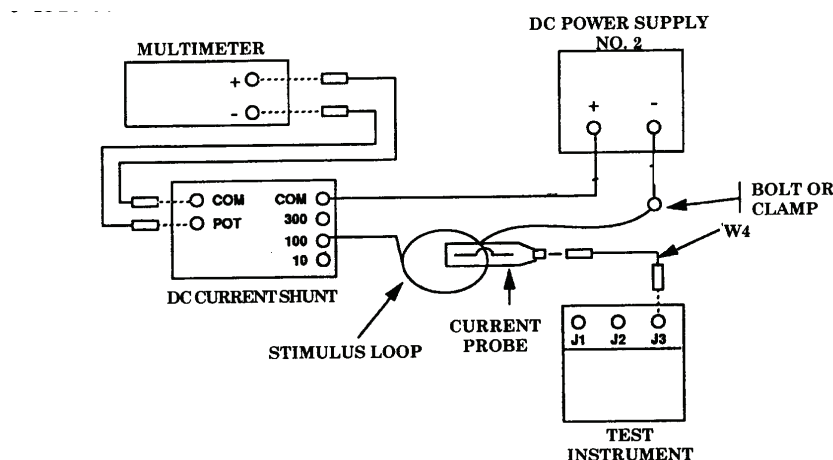

Figure 2. VTM dc current (high) - equipment setup.
- (11) Connect equipment as shown in figure 2.
Fabricate a current stimulus loop as shown in figure 2. The loop design should be 20 turns of No. 10 insulated copper wire with a bundle diameter of the turns being no more than 1 inch. The inside diameter of the loop should be 6 inches \pm 1 inch. Care should be taken to ensure that the loop does not overheat.